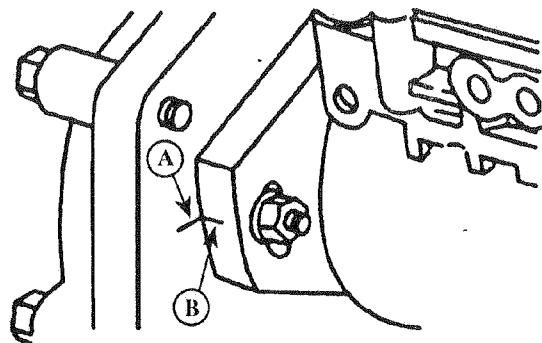

Figure 17.
9. Check to make sure that timing marks on back side of front plate (Fig. 17,A) and injection pump flange (B) are present and properly aligned. This assures that repaired or replacement pump can be properly times to engine when installed.
IMPORTANT: Injection pump mounting flange timing mark (Fig. 17,A) and front plate timing mark (B) presence and alignment MUST be verified before removing pumps from engine.. DO NOT reference internal timing marks (on pump cam ring and governor weight retainer). If timing mark is not clearly visible on front plate, scribe a visible reference mark as accurately as possible in-line with mark on pump flange.